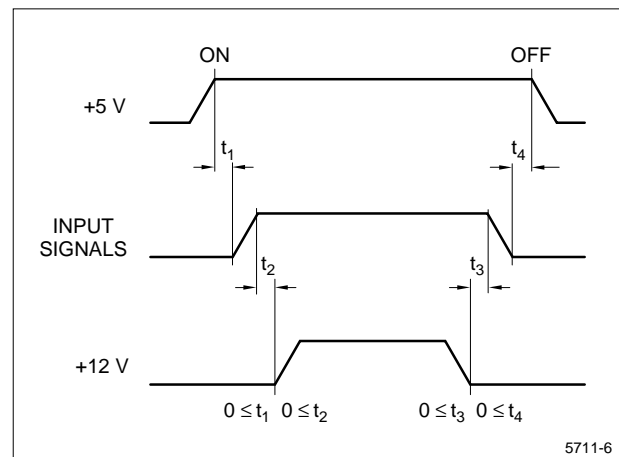

Figure 7. Power ON/OFF Sequence
- Power ON/OFF sequential timing – To prevent the latch-up of the circuit in the module, keep the sequential timing between input signals and supply voltages as shown in Figure 7.